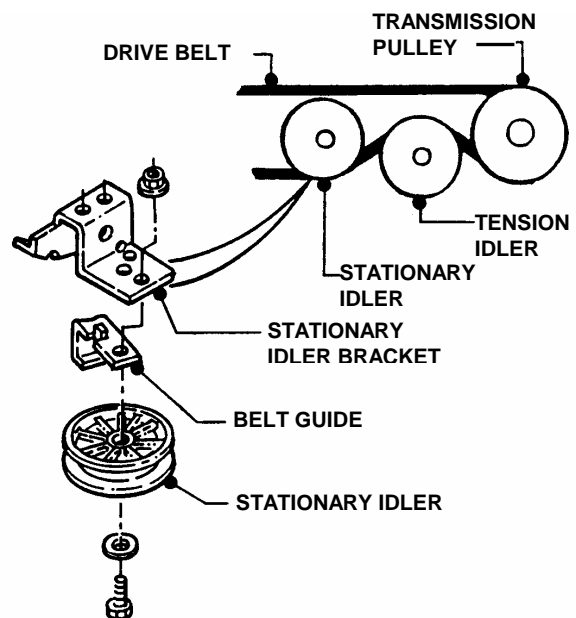

FIGURE 4.30
3. Route belt through stationary and tension idlers. See Figure 4.30.
NOTE: When installing a new belt, make certain the stationary idler is mounted in the hole closest to the L.H. side of the tractor. See Figure 4.30.